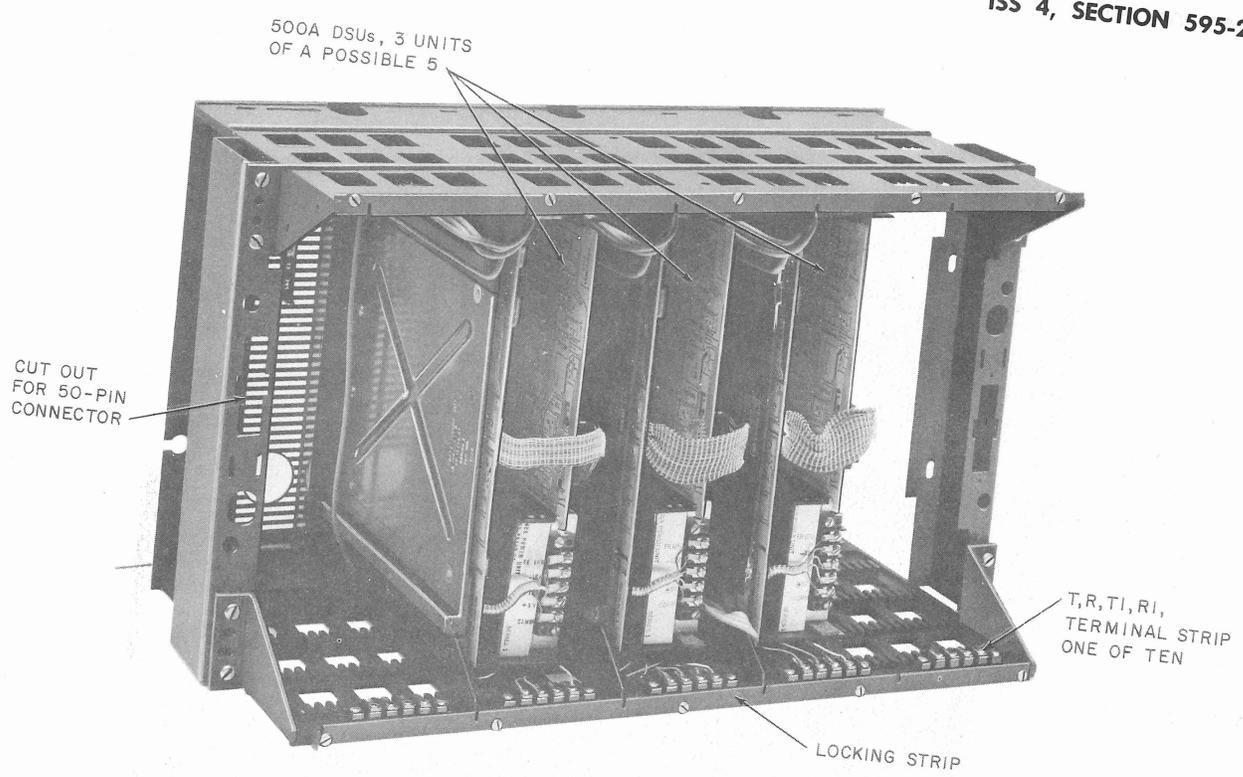

Fig. 11—48A-Type Data Mounting—Rear View Showing Three 500A-Type DSUs Installed
(13) Attach the multiple plug power cord, supplied with the 48A-L1/2, to each DSU power supply connector (Fig. 11).